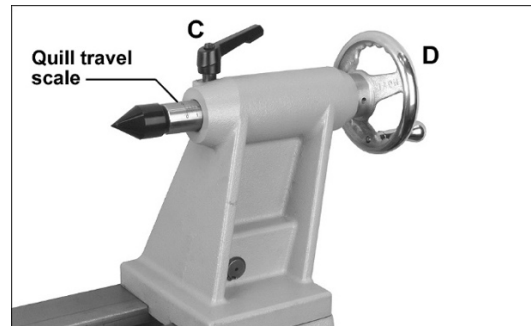

Figure 8-6: Installing Center in Tailstock
3. To remove the center from the tailstock, loosen locking handle (C, Figure 8-6) and retract quill by rotating handwheel counterclockwise until center dislodges on its own. Hold the center with one hand to prevent it from falling out of spindle, which can damage it.